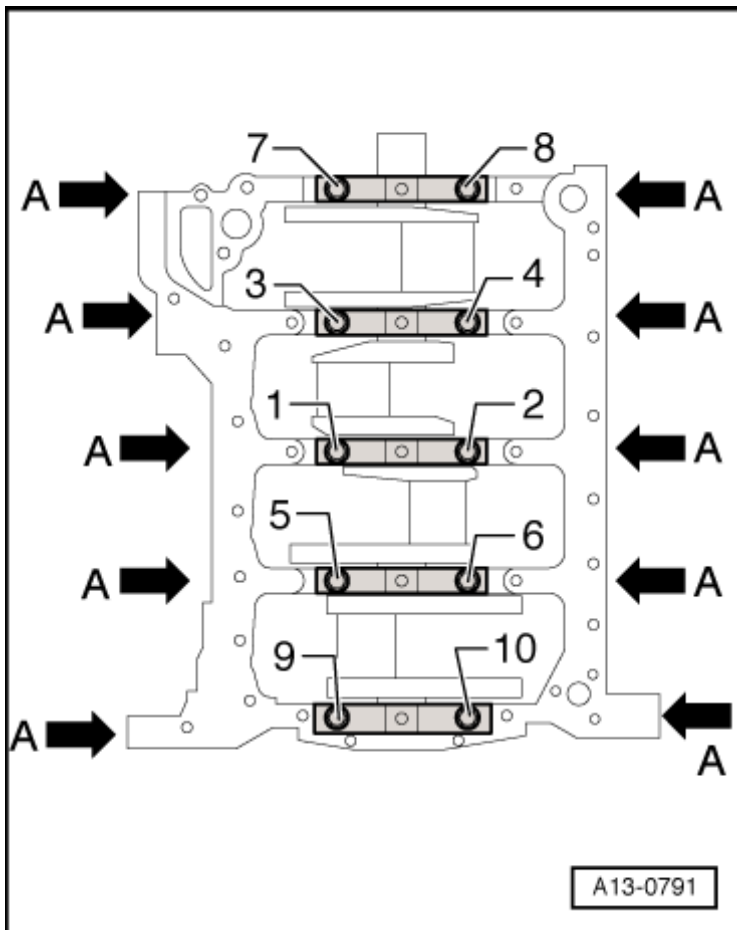

Fig. 13: Crankshaft Bearing Cap, Installing
- Follow the tightening sequence, refer to **Fig. 13**.